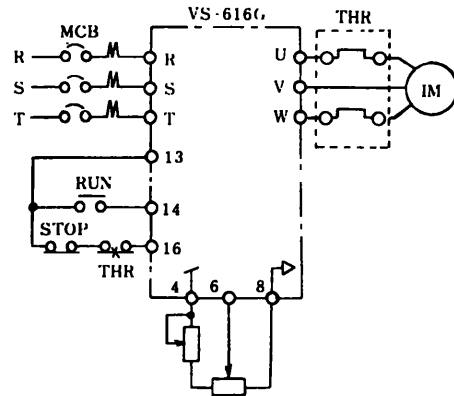

Fig. 6.10 Sequence Circuit for Stopping
(3) When motor protection thermal relays are used with G Series Units: Design an interlock sequence using a stop sequence circuit or an MC (Figs. 6.10 and 6.11).